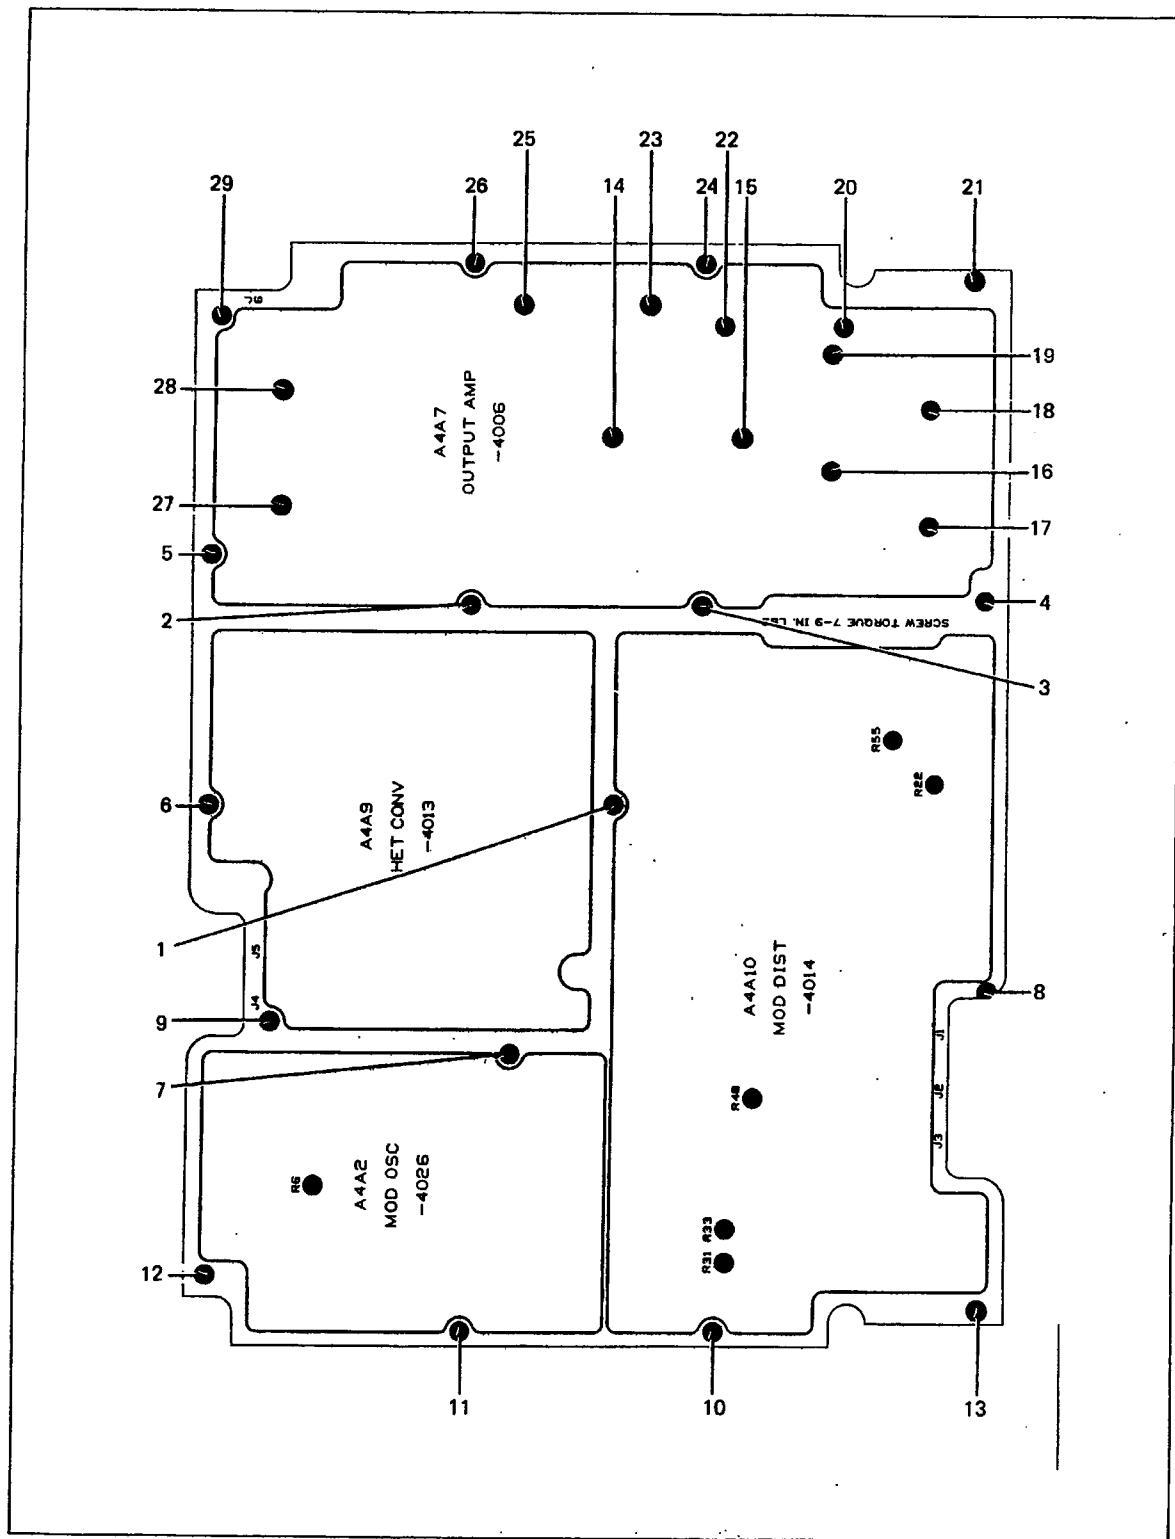

Figure 3-12. Torque Sequence, Output Module, Bottom Cover
3. Remove the screws and washers that hold the bottom cover of the output module in place (Figure 3-12).
- a. Torque all screws to 3 inch-pounds in the numerical sequence shown in Figure 3-12.
- b. Torque all screws to 7 to 9 inch-pounds in the numerical sequence shown in Figure 3-12. The torque value should be the same for all screws.